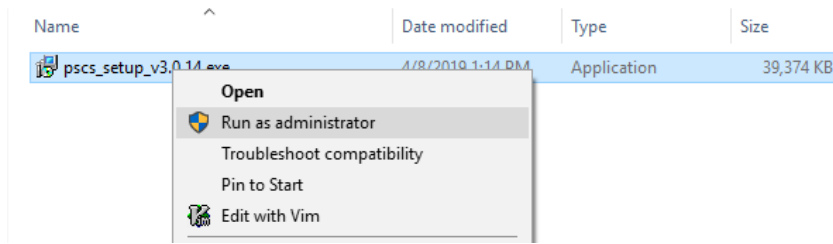

Figure 7.3
3. Right-click on the .exe file and select “Run as administrator”. Figure 7.3